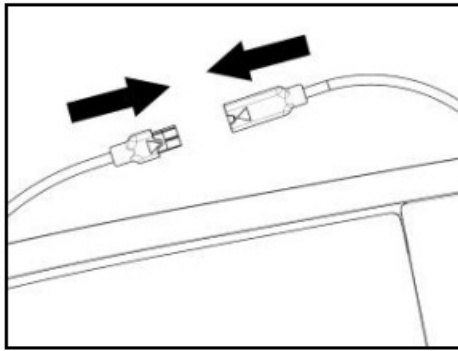

Fig. 20
- Hook up the microphone to the connector coming out of the e-Box (Fig. 20).